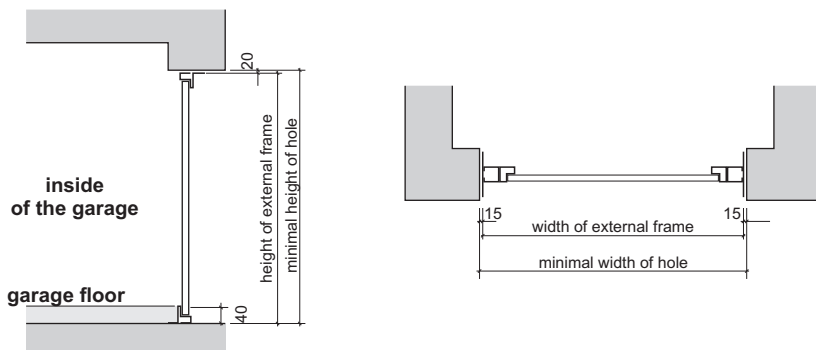

Figure 1 Installation of the garage door into the mounting hole
2. Mounting plates, depending on assembly method, should be screwed to the frame (Fig. 1). When using other fastening elements, make sure they are at least as strong as those provided by the manufacturer.